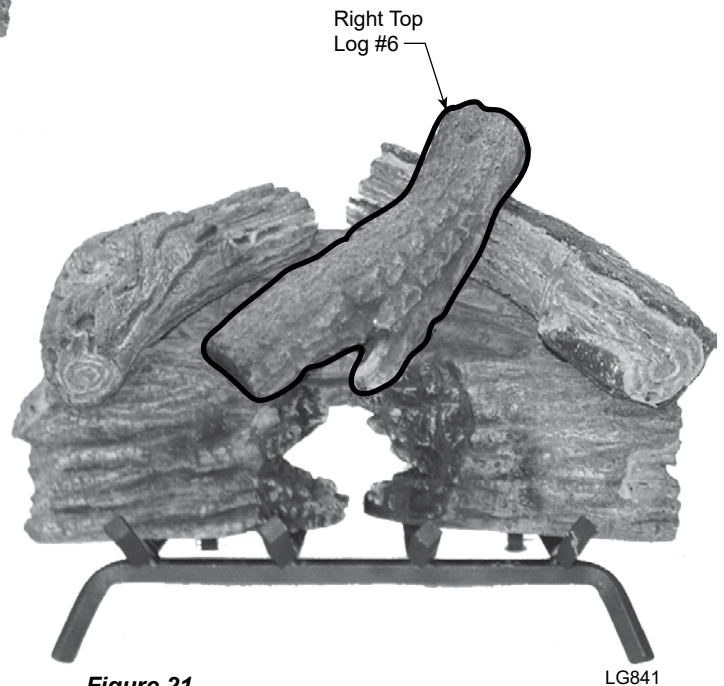

Figure 21 -
7. Place right top log #5 as shown. *Figure 21*